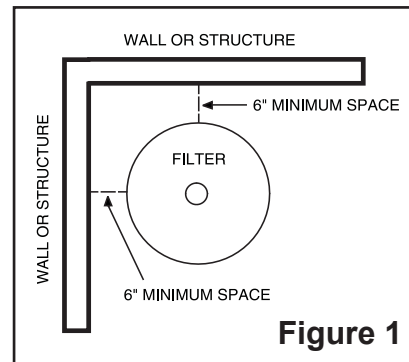

Figure 1
4. Allow sufficient clearance around the filter in order to see that the clamp is properly installed around the tank flanges. See **Figure 1**.